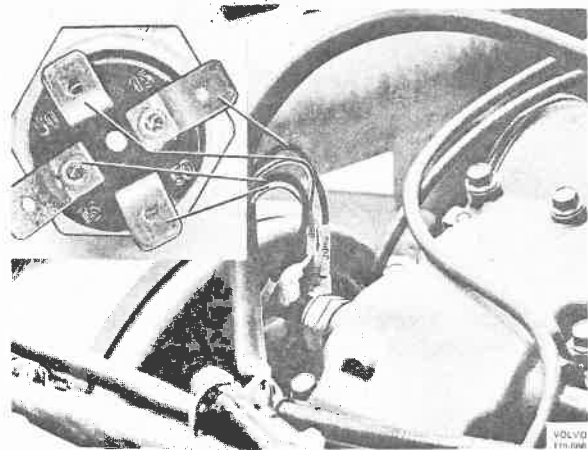

Fig. 38-28. Contact for front-wheel drive at distributing gearbox
2. Mark and disconnect the cables from the contact, see Fig. 38-28.